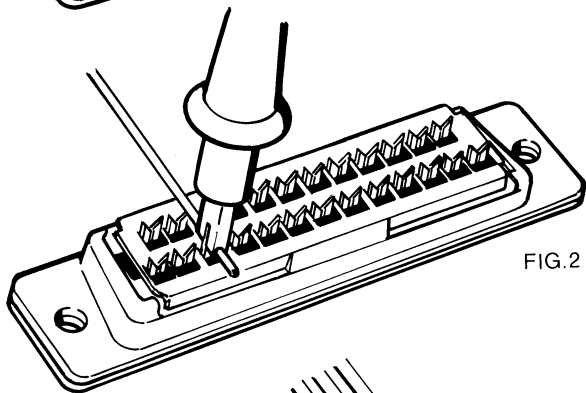

FIG. 2
2. Visually line the deeper grooves of the wire insertion tool parallel to the contact. (Figure 2.)